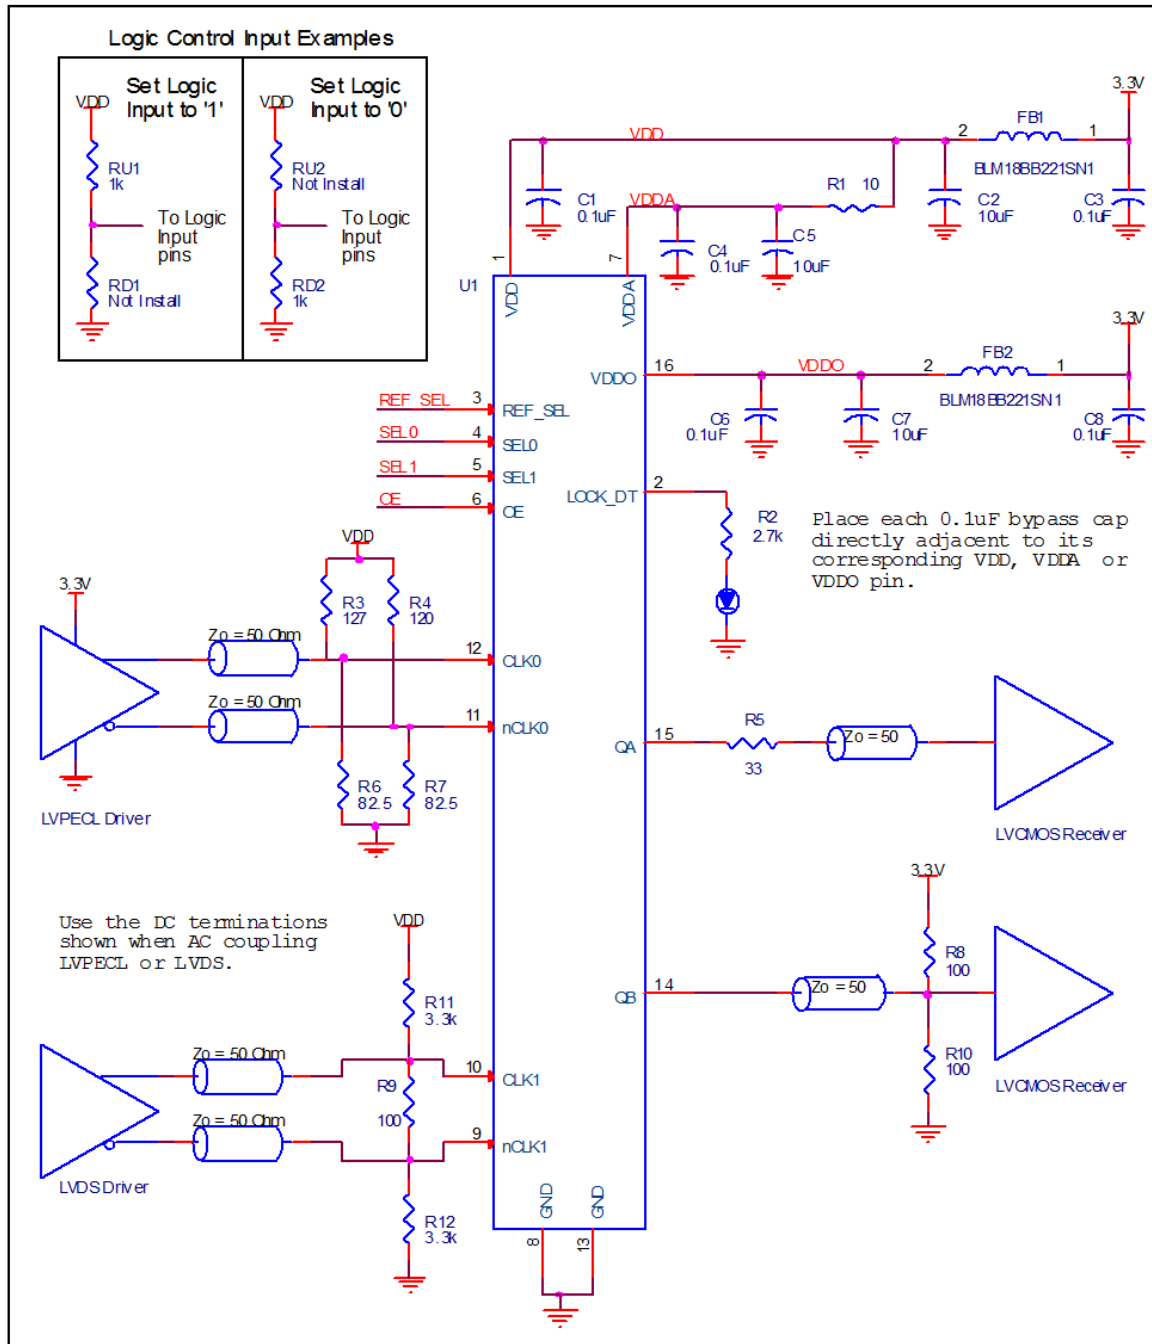

Figure 4. ICS840272I Schematic Example
*Figure 4* (next page) shows an example ICS840272I application which focuses on functional connections and is not configuration specific. Refer to the pin description and functional tables in the datasheet to ensure that the logic control inputs are properly set for the application.